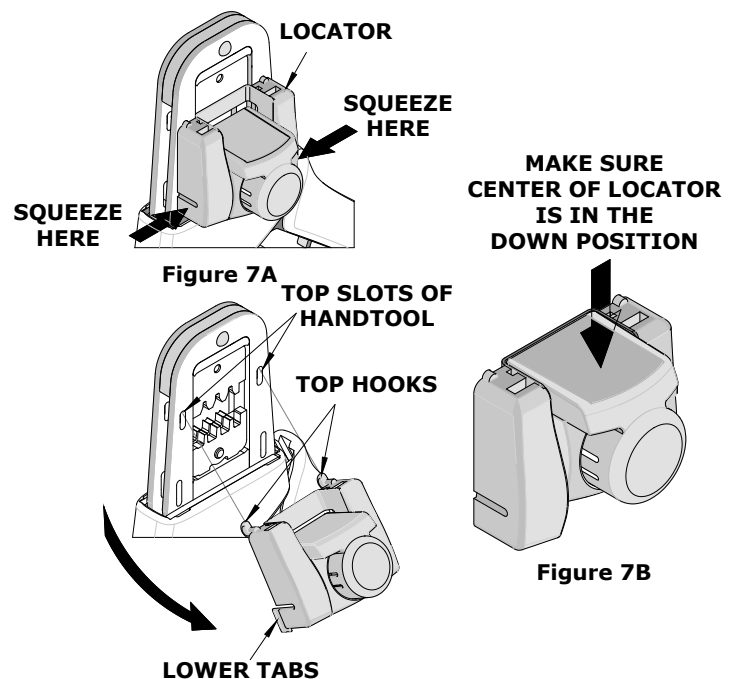

Figure 7B
5. Press the red insert down as far as it will go as shown in Figure 7B.
6. Holding onto the lower part of the locator with your thumb and index finger, insert the locator's top hooks (2) into the hand tool's top slots.